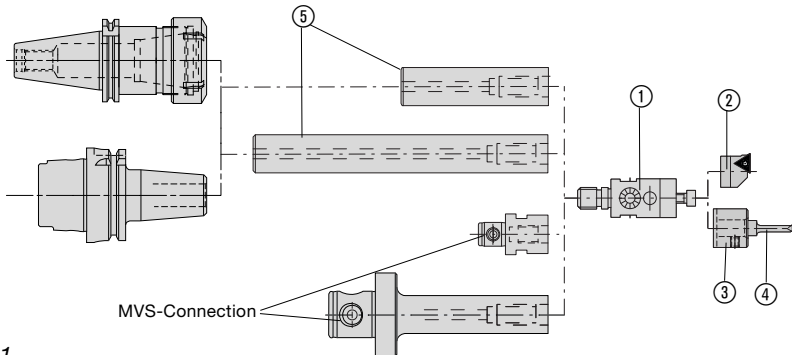

figure 1
The precision tools ① are designed for machining precision holes from 3.0 to 30.2 mm (.118 – 1.185") diameter. Insert holders ② can be fitted to all precision tools. With size 248 002 (249 002) and 248 003 (249 003) size precision tools, adaptors ③ for tool holders ④ or mini-boring tools can also be fitted (figure 1).
The precision tools can be fitted to straight shanks ⑤ of different length resp. fixed to adaptor pieces with MVS connection. A collet chuck can be used to suit the length of overhang on each job (figure 1).